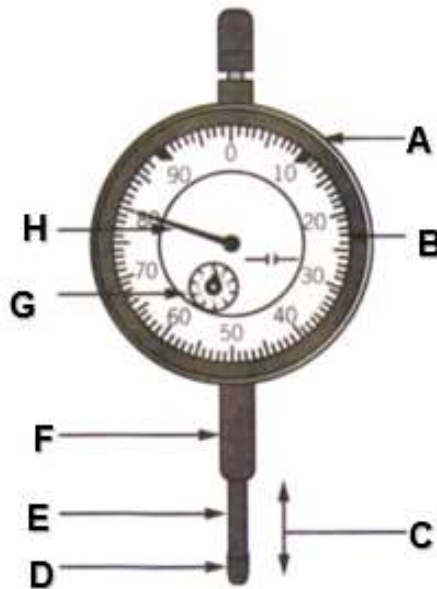

FIGURE 4.4
- 4.4 Label the Dial indicator in FIGURE 4.4 from A – H.